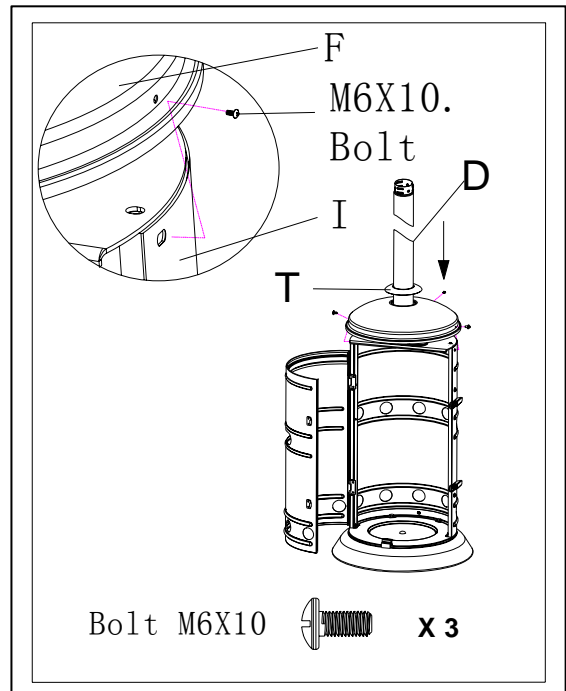

Fig. 4
4. Fix Tabletop Support (H) to Tabletop (G) by using four screws (EE). (Fig. 4)